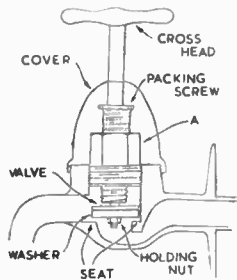

Fig. 1—Tap section
If the tap drips continuously, it follows that the rubber washer in the tap has worn out and requires to be renewed. To fix a new washer in the tap, first unscrew the cover (see Fig. 1) to reveal nut (A), which should be turned anti-clockwise until the top of the tap is disconnected from the bottom half. All that remains to be done is to